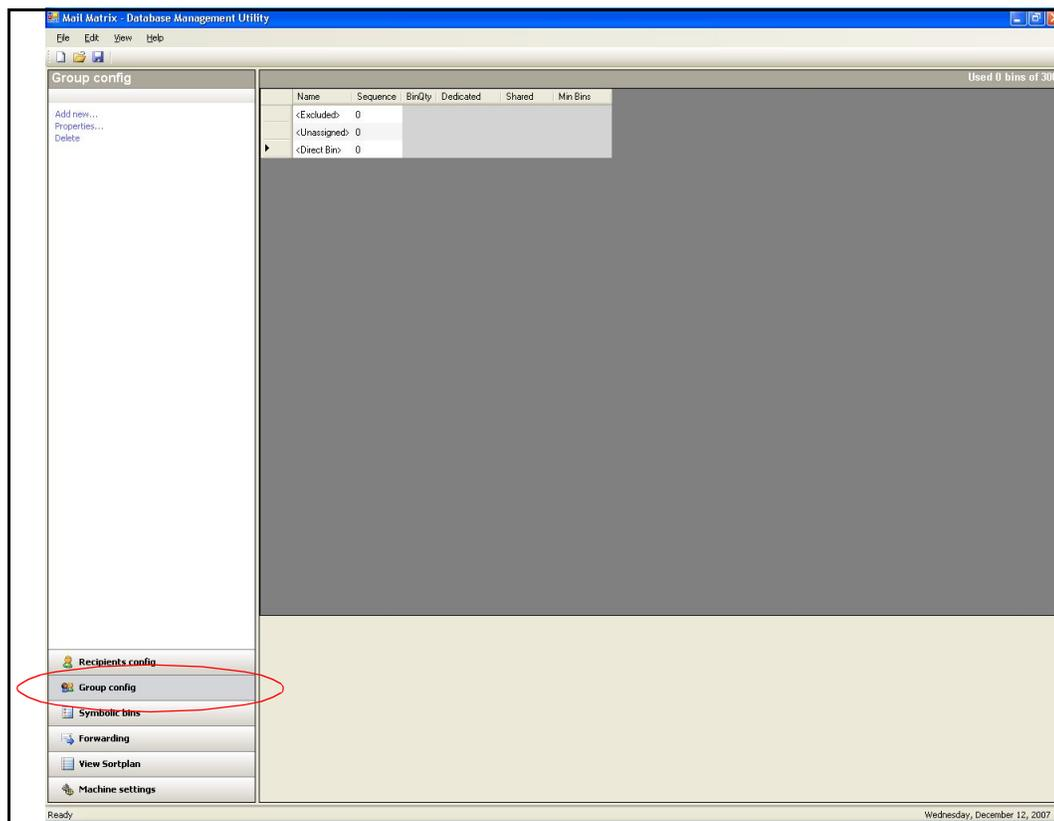

Figure 165: Group configuration screen
1. Click the **Group config** button in the menu list on the left of the utility screen (Figure 165).